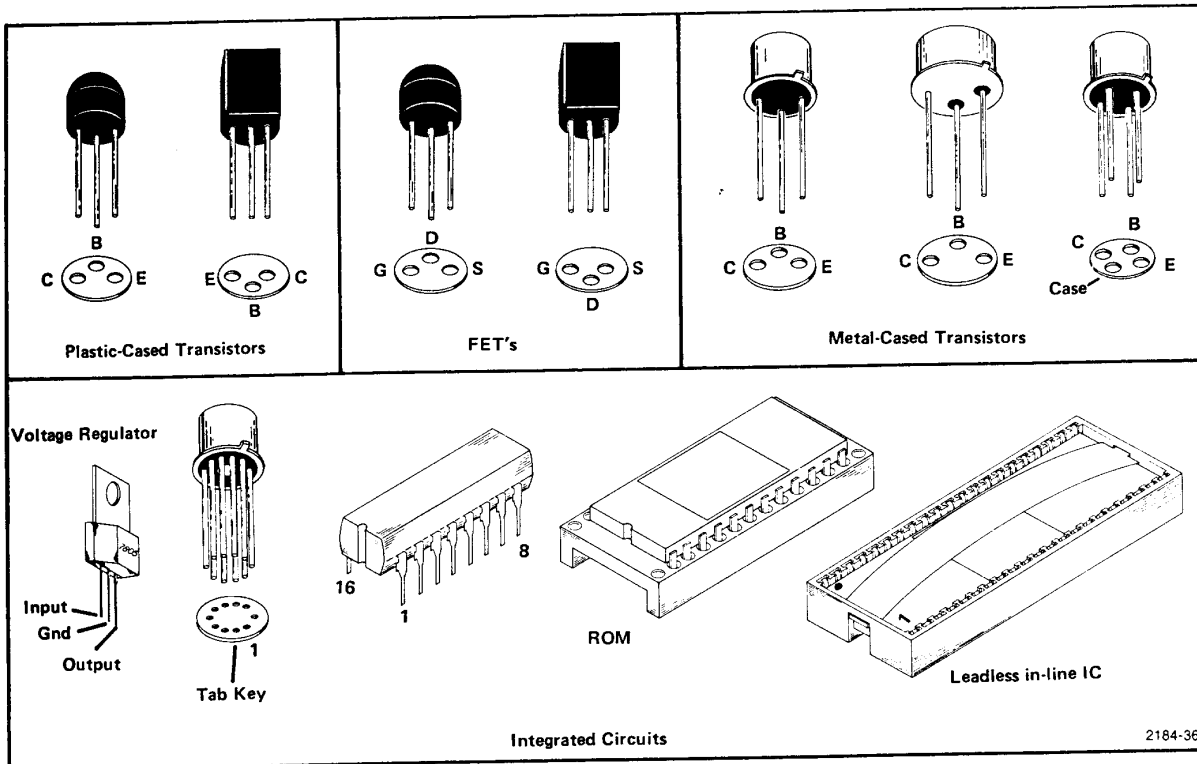

Fig. 4-4. Electrode configuration for semiconductor components.
**Transistor and Integrated Circuit Electrode Configuration.** Lead identification for the transistors and MOS FET's is shown in Fig. 4-4. IC pin outs are shown either by table or box on the schematic diagram.